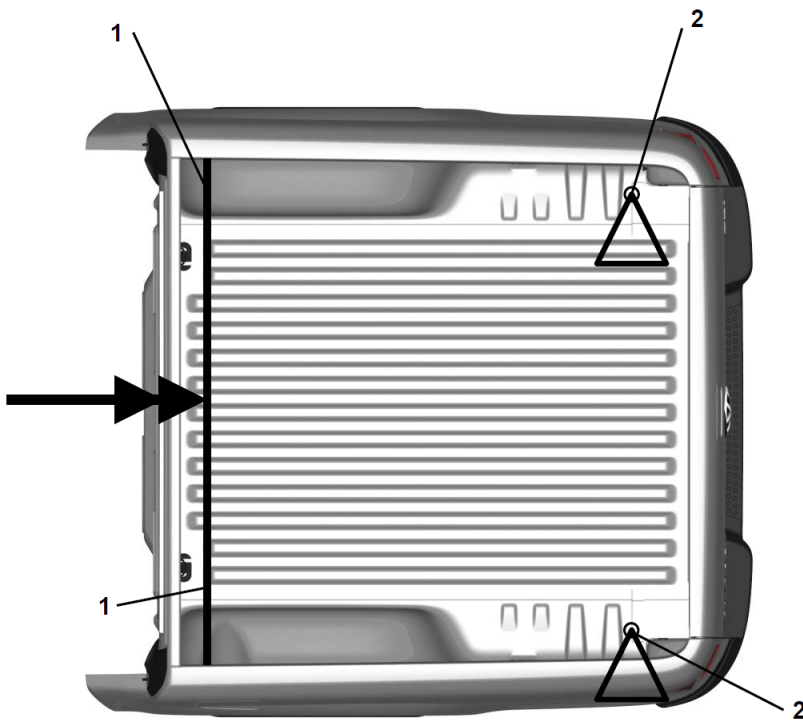

Fig. 4.3.3: Static rigidity of cargo box between the bolting points at the front (1) and rear (2) of body-in-white, $CT = 1,400 \text{ Nm/}^\circ$
- If the cargo box is replaced by other bodies, the new body shall have a maximum static torsional rigidity of $CT=1400 \text{ Nm/}^\circ$ (see Fig. 4.3.3).